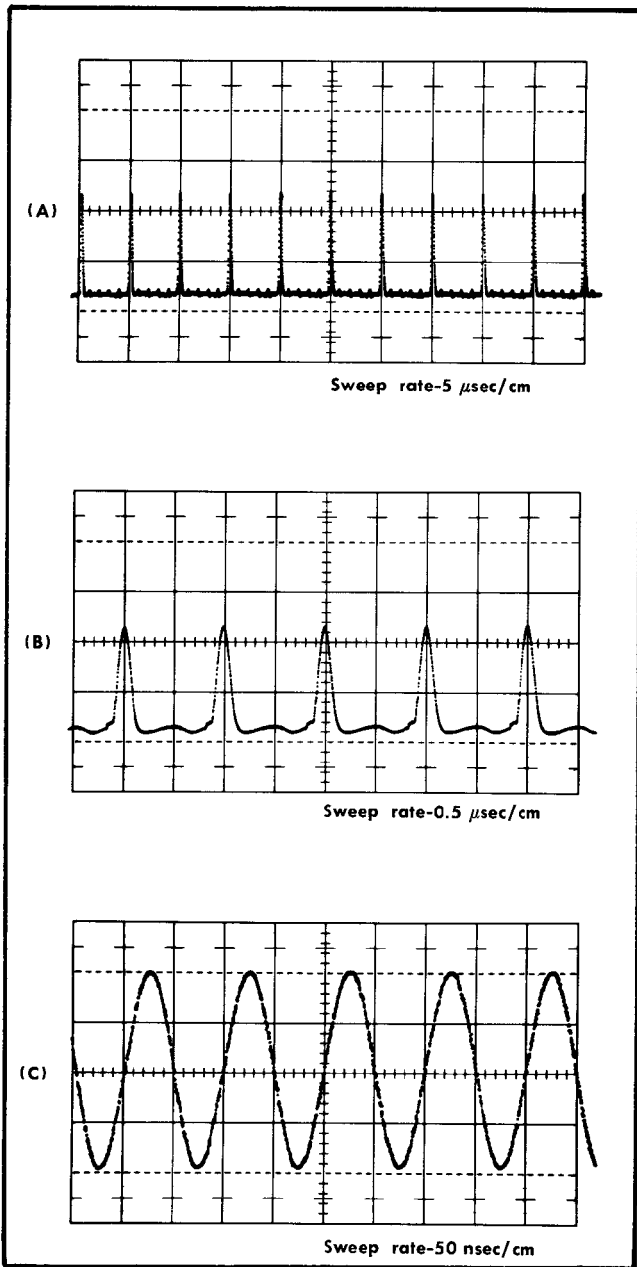

Fig. 5-55. Typical indicator oscilloscope displays for checking the $\times 10$ and $\times 100$ magnifiers.
m. Check timing when using the X10 and X100 magnifiers as given in Table 5-2 and illustrated in Fig. 5-55. Timing over the center 8 cm should be within 1% (0.08 cm) at each magnification.